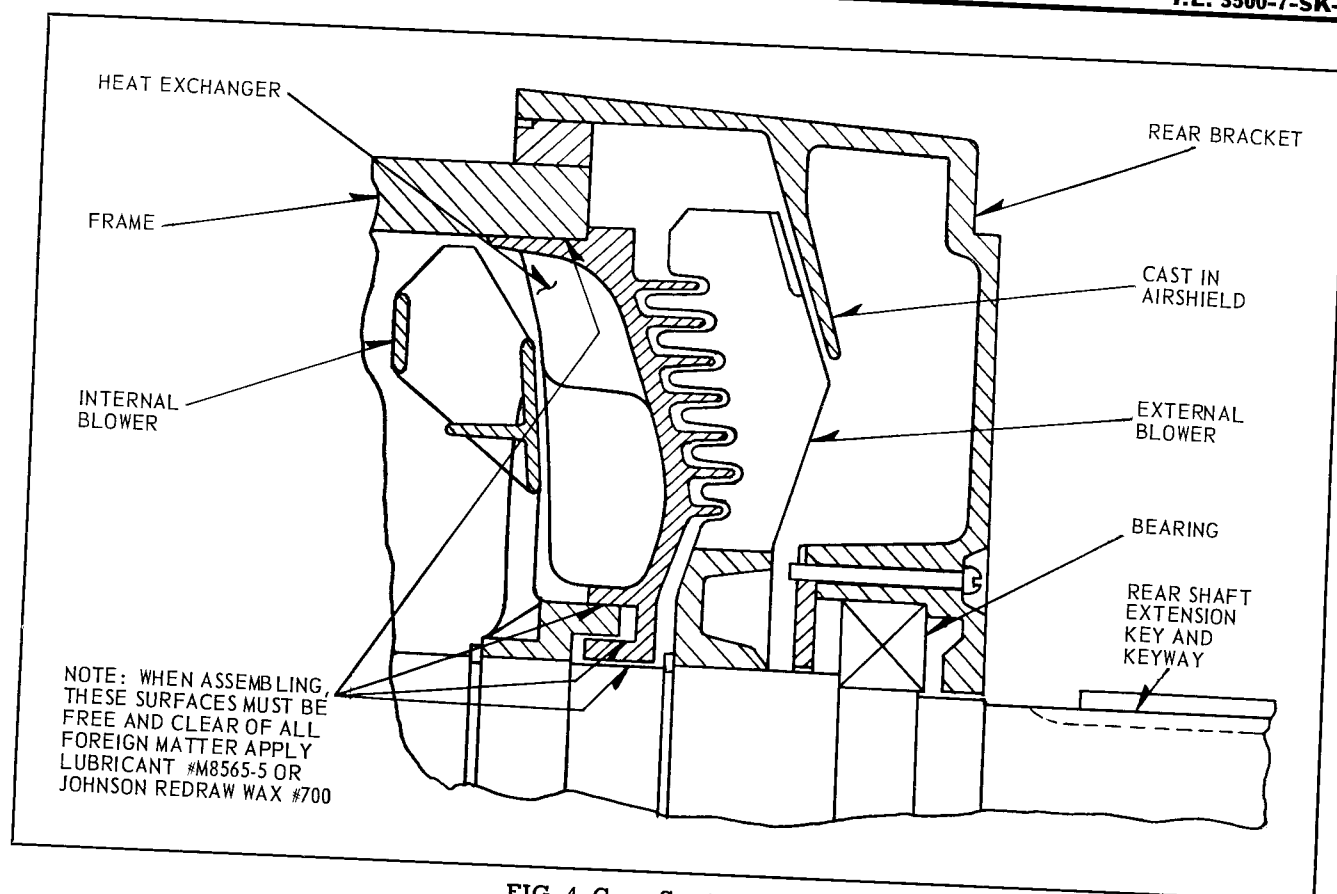

FIG. 4. Cross Sectional View
**5. Aluminum Parts.** Use "Molykote" lubricant Westinghouse Spec. # M 8565-5 or Johnson Redraw Wax # 700 on all aluminum fits when re-assembling machine. See Fig. 4